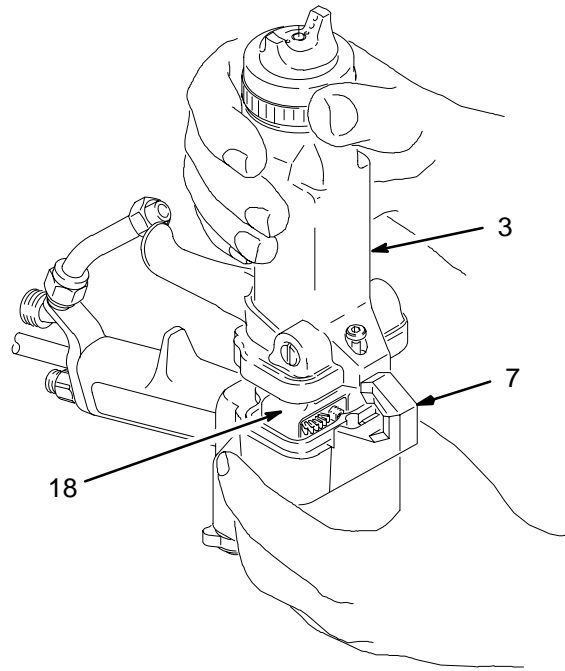
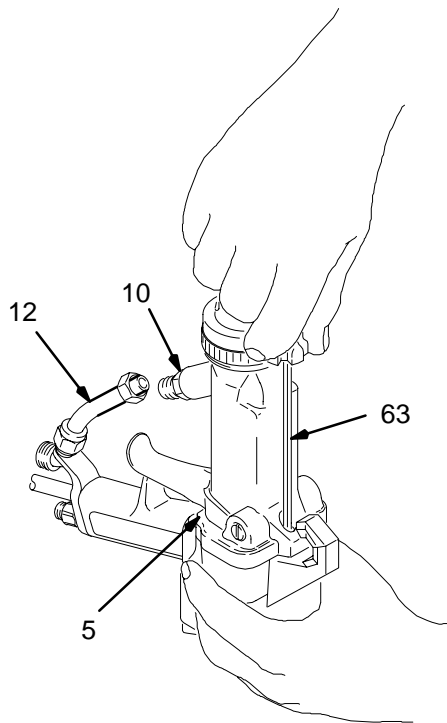

Fig. 15
Fig. 14
2. Carefully loosen the nut from the fluid fitting (10). Pull the tube (12) out of the fitting. Make sure both ferrules and the nut stay with the tube. See Fig. 14.
3. Using the wrench (63) supplied, loosen the three socket head cap screws (5).
4. Hold the gun handle (7) with one hand and pull the barrel (3) straight away from the handle to remove it. See Fig. 15.